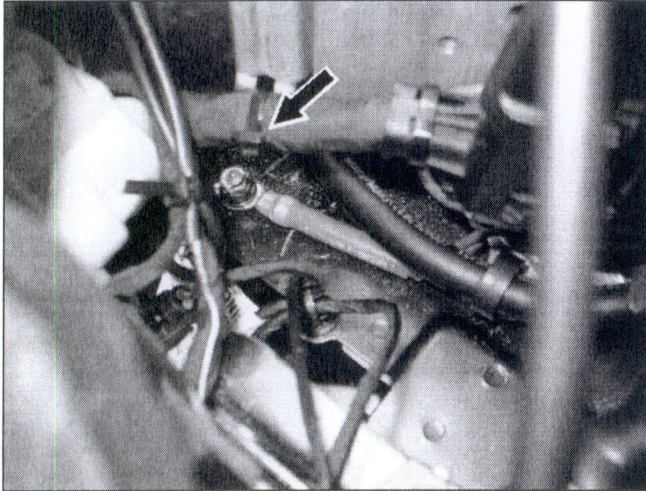
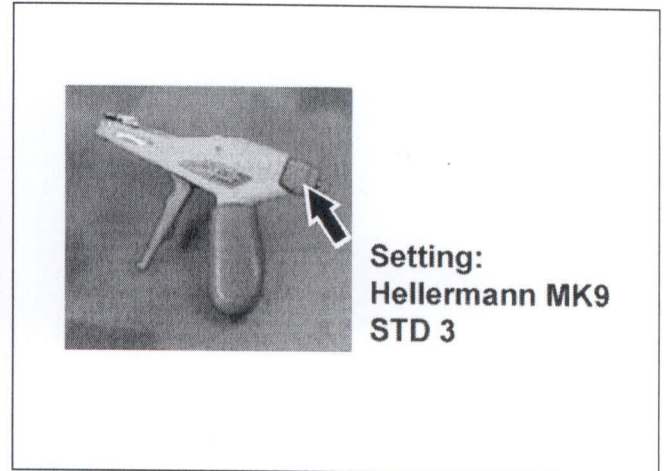
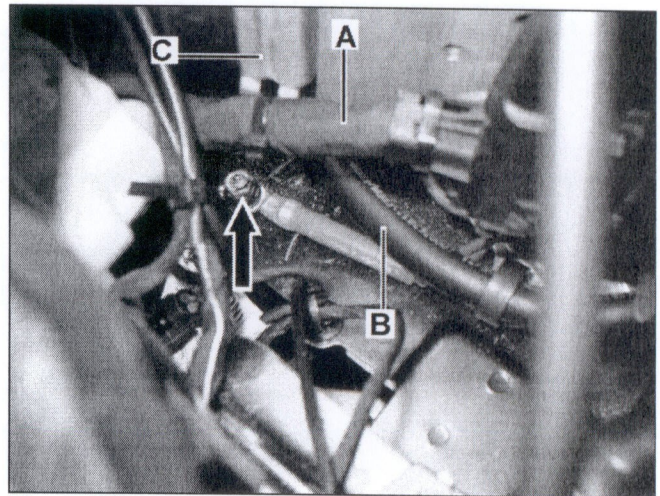

Figure 28
Figure 29
Figure 30
- Ensure cable tie (arrow, Figure 28) was properly affixed using cable tie pliers (Hellermann MK9; special tool number W 352 589 02 37 00); use **setting 3 on cable tie pliers**, as shown in Figure 29.
- Ensure wiring harness (A, Figure 30) touches the bracket (C, Figure 28) and is mounted there tension free.
- Ensure wiring harness (A, Figure 30) and water hose (B, Figure 30) are not touching each other.
- Ensure tightening torque on ground terminal stud (arrow, Figure 30) is **between 7 and 10 Nm**.